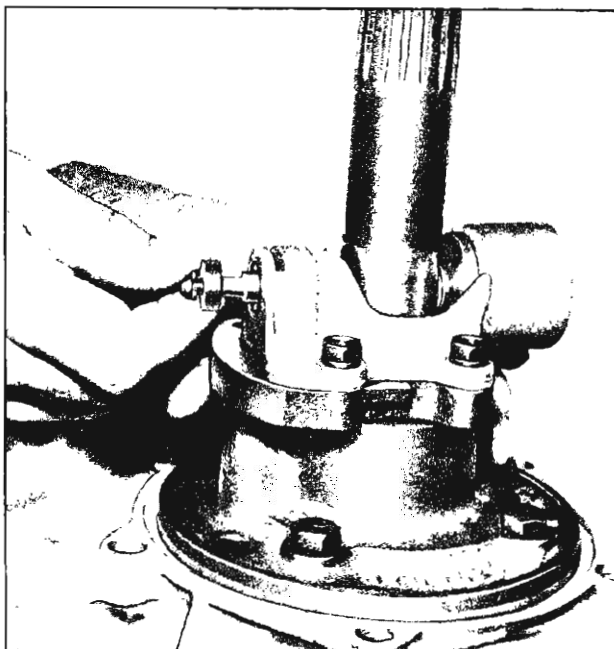

Fig. 8PG—Removing Governor Valve and Shaft
6. Remove the "C" clip from the governor shaft on the weight side of the governor, then remove the shaft and governor valve from the opposite side of the governor assembly (fig. 8PG) and the two Belleville springs.